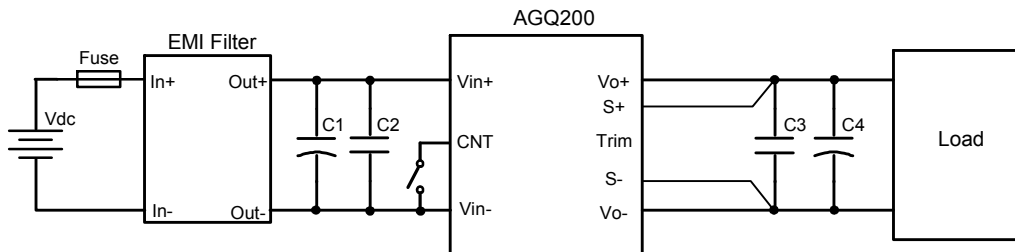

Figure 11 Typical application
Figure 5 Dynamic response for 25% load step (25% ~ 50% ~ 25%) and 0.1A/µs slew rate, (1ms/div), see Figure 11 for test configuration; CH1-output voltage (50mV/div); CH2-output current (10A/div)
Figure 6 Dynamic response for 25% load step (50% ~ 75% ~ 50%) and 1A/µs slew rate, (1ms/div), see Figure 11 for test configuration; CH1-output voltage (200mV/div); CH2-output current (10A/div)
- C1 ~ C4: See Figure 11